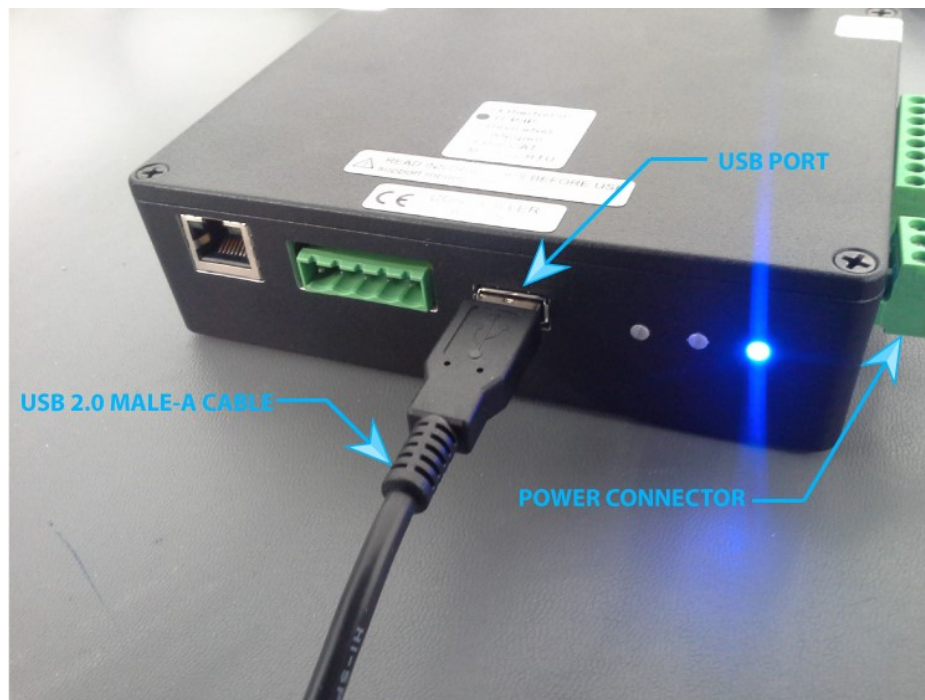

Figure 3.2.2 : Completed USB connection of the 2-Finger Adaptive Robot Gripper Controller.
- c. Reconnect the power cable to the Controller, (Figure 3.2.2) then power up the Controller and Gripper with a 24V power source (not included) as described in the appropriate Instruction Manual wiring section, for the 2-Finger-85 see this Wiring Section, for the 2-Finger-200 see this Wiring Section.